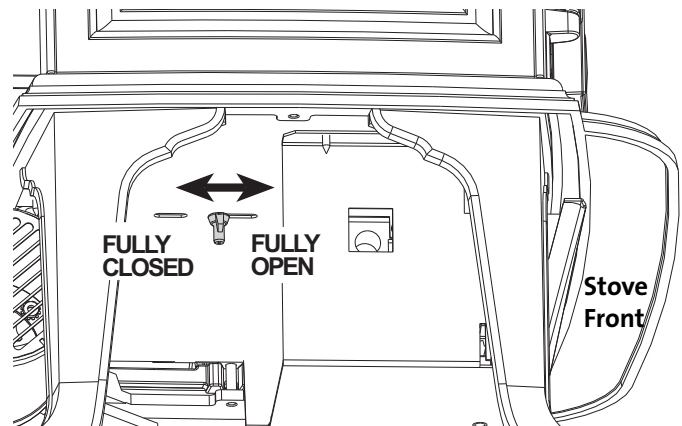

Figure 23. Locate and loosen the Air Shutter wingnut under the stove.
6. Reach under the stove and loosen the Air Shutter wing-nut. Push the shutter stem back to ease burner removal. See fig. 23.
- Adjust the Air Shutter.** You will need to position the shutter to provide a gas/air mixture that will achieve the best flame picture with your particular installation. Start with the shutter stem at the half-way position in the slot in the bottom of the stove. See fig. 23. Pushing the stem back will restrict air, while pushing it forward will open the shutter and increase air. With some experimentation, you will find the shutter position that works best for your installation.